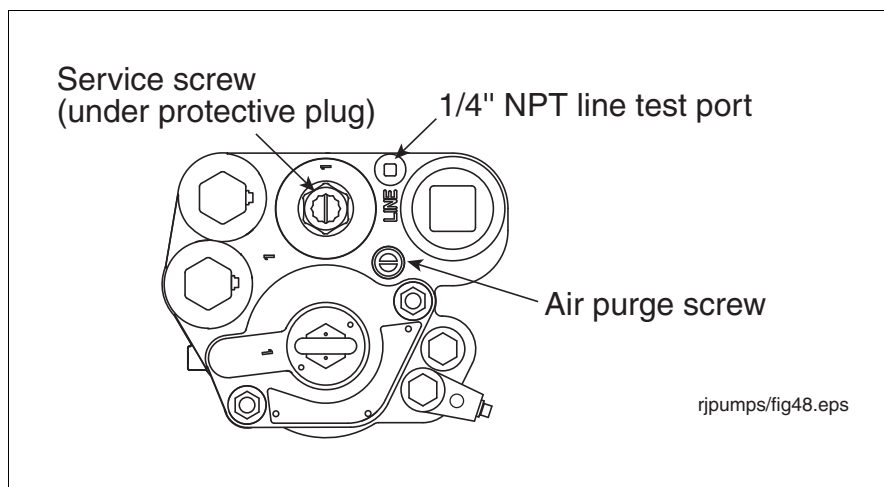

Figure 36. Locating Pump Line Test Port
- Pressure may be observed using a gauge attached at the impact valve or to the pump's line test port (see Figure 36).
2. Remove and save the protective plug over the service screw and turn the screw clockwise (see Figure 36). As the screw approaches its bottom position, you will hear the system depressurizing. Continue turning the screw until it can go no further. When the screw is all the way down, backoff the screw 4 turns to lift the check valve and let the fuel drain out of the manifold's hydraulic cavities. Continue to turn the screw all the way counterclockwise. When the screw is almost up, the check valve will drop down into position.
3. Remove the line test port plug (see Figure 36) and attach test gauge.
4. Open the air purge screw 2 - 3 turns counterclockwise (see Figure 36).
2. Remove and retain the protective plug over the service screw and turn the screw clockwise (see Figure 36). As the screw approaches its bottom position, you will hear the system depressurizing. Continue turning the screw until it can go no further.